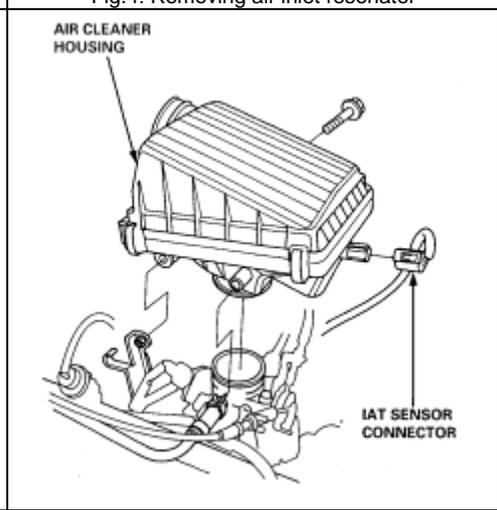

Fig.6: Removing air filter case
- f. Loosen and remove the bottom bolt that holds the filter case to the throttle body (Fig 6).
- g. Remove the inlet air temperature sensor from the filter case and set aside for re-installation later (Fig 6).